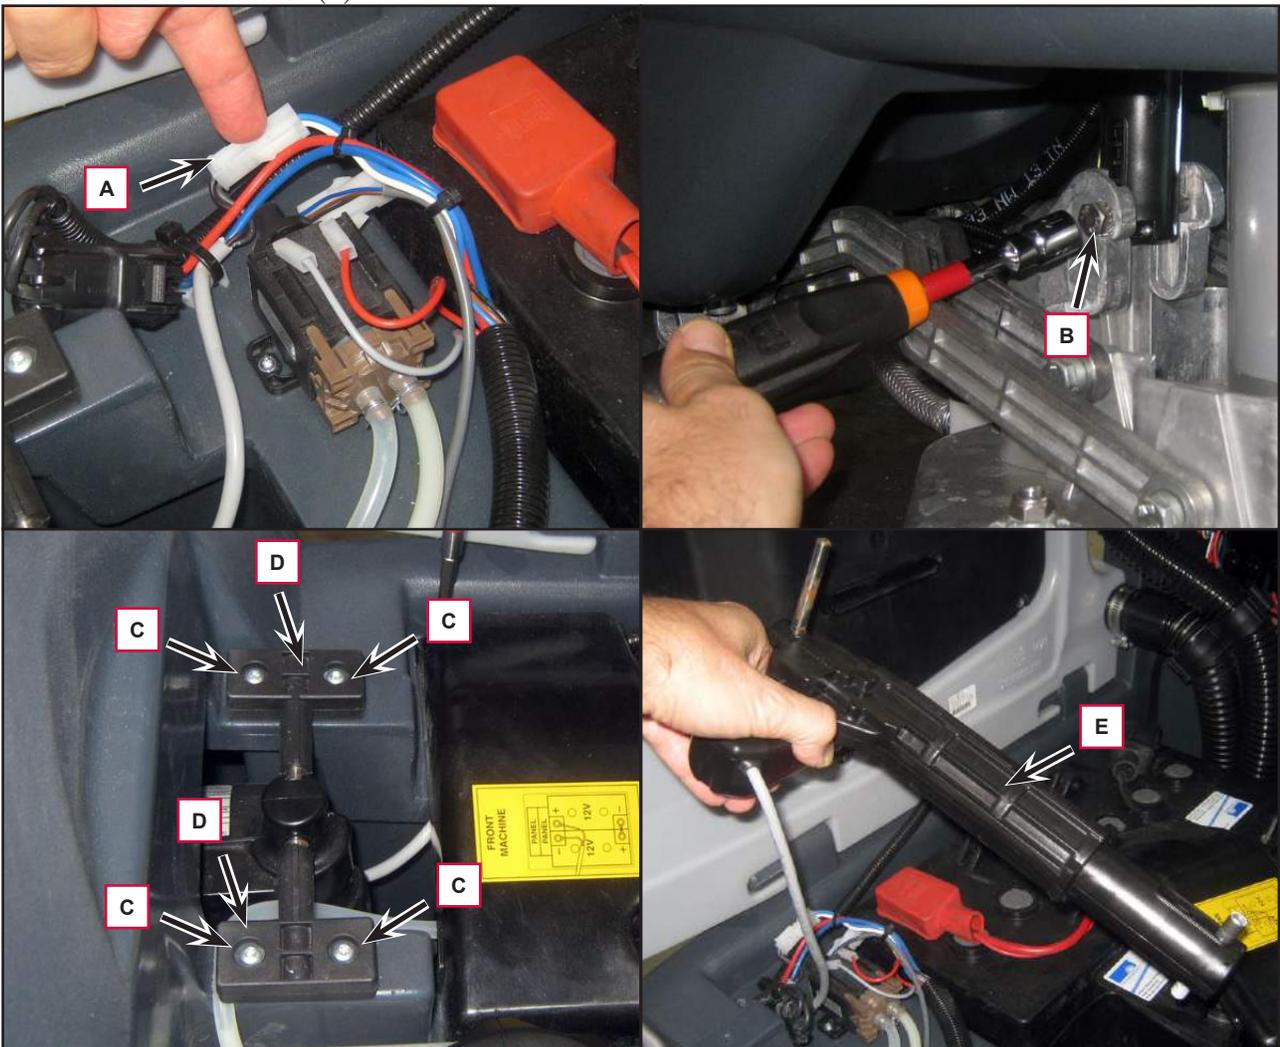

Figure 17
3. Remove the cover and disconnect the actuator connector (A) (Figure 17).
4. Unscrew the screw (B) of the lower pin, retaining the bushings.
5. Remove the screws (C), retaining the plates (D).
6. Remove the actuator (E).